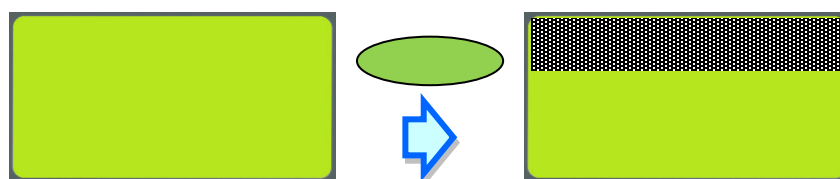

Figure 3-6 Menus displayed on the screen of a TP series text panel
- (4) After the users edit the menu they want to modify, they have to touch **1. D/L AP TP04G** ←PC on the screen of the TP04G series text panel used. “WAIT COMM...” will be displayed on the screen of the TP04G series text panel used after **1. D/L AP TP04G** ←PC is touched.
- (5) The users have to click **Write Menu to TP** on the **Communication** menu. **Write Menu to TP** is usually shown in grayscale. Only when the **User Menu Setting** mode is used can **Write Menu to TP** be clicked. After the users click **Write Menu to TP**, the 21 user menus will be downloaded to the TP04G series text panel used.
- (6) The users have to touch **TP04G SETUP** on the main menu displayed on the screen of the TP04G series text panel used. They have to touch Language, press Enter on the panel, and select **USER DEFINE**. After **USER DEFINE** is selected, the user-defined language can be used, as shown in Figure 3-6.